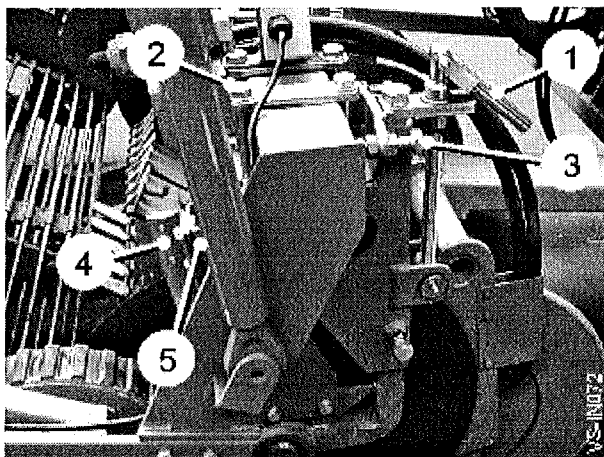

Fig 7
To set the disc coulters depth, turn the adjusting handle (item 1, fig 7) until the required depth is reached.
1. Release the clamp bolts (item 2, fig 7) and locking bolts (item 3, fig 7) and slide the disc assembly along the bridge beam to the required position.
2. Re-tighten the clamp bolts (item 2, fig 7) and then re-tighten the locking bolts (item, 3, fig 7).
The disc coulters are each fitted with two scrapers (item 4 & 5, fig 7), these should be set as close to the disc as possible without fouling it.